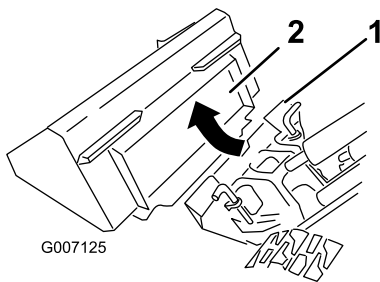

Figure 31
4. Position mount plate into the upper lip of the attachment receiver plate (Figure 31).